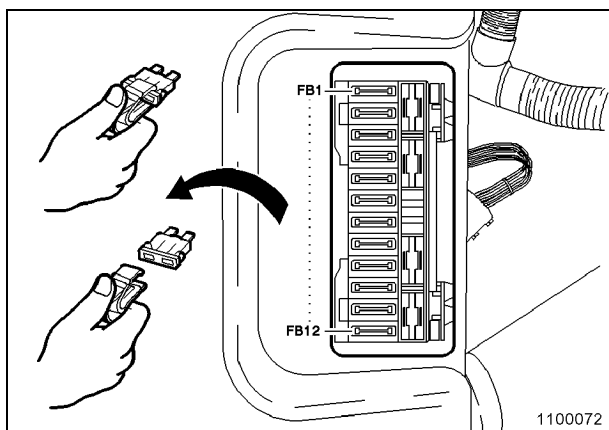

Fig. 2
The fuses are now accessible (Fig. 2). Fuse assignment and rating see: "Table of fuses".
- Withdraw the fuse from the holder with the special fuse removal tool provided in the fuse-box (Fig. 2).